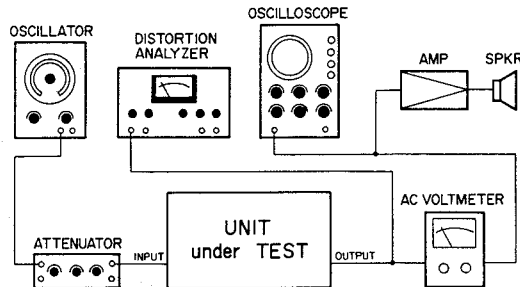

Fig. 7-38. Distortion Measurement Set-Up
1. Connect test equipment as shown in Fig. 7-38.